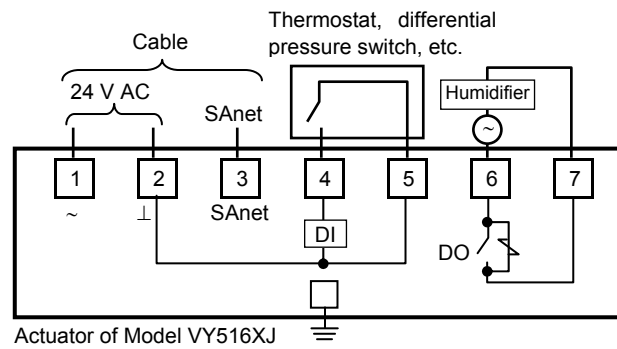

Figure 11. Basic connection example
- 3) Correctly connect the wires to the terminals with M3.5 screw terminal lugs, referring to Fig. 11.